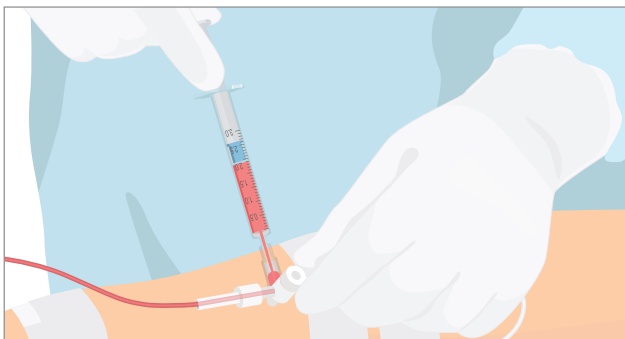

Figure 2.
3. Push the plunger on the heparinized aspirating syringe fully forward and attach the Luer to the stopcock. Open the stopcock, draw the required volume of blood (**Figure 2**), and re-close the stopcock.